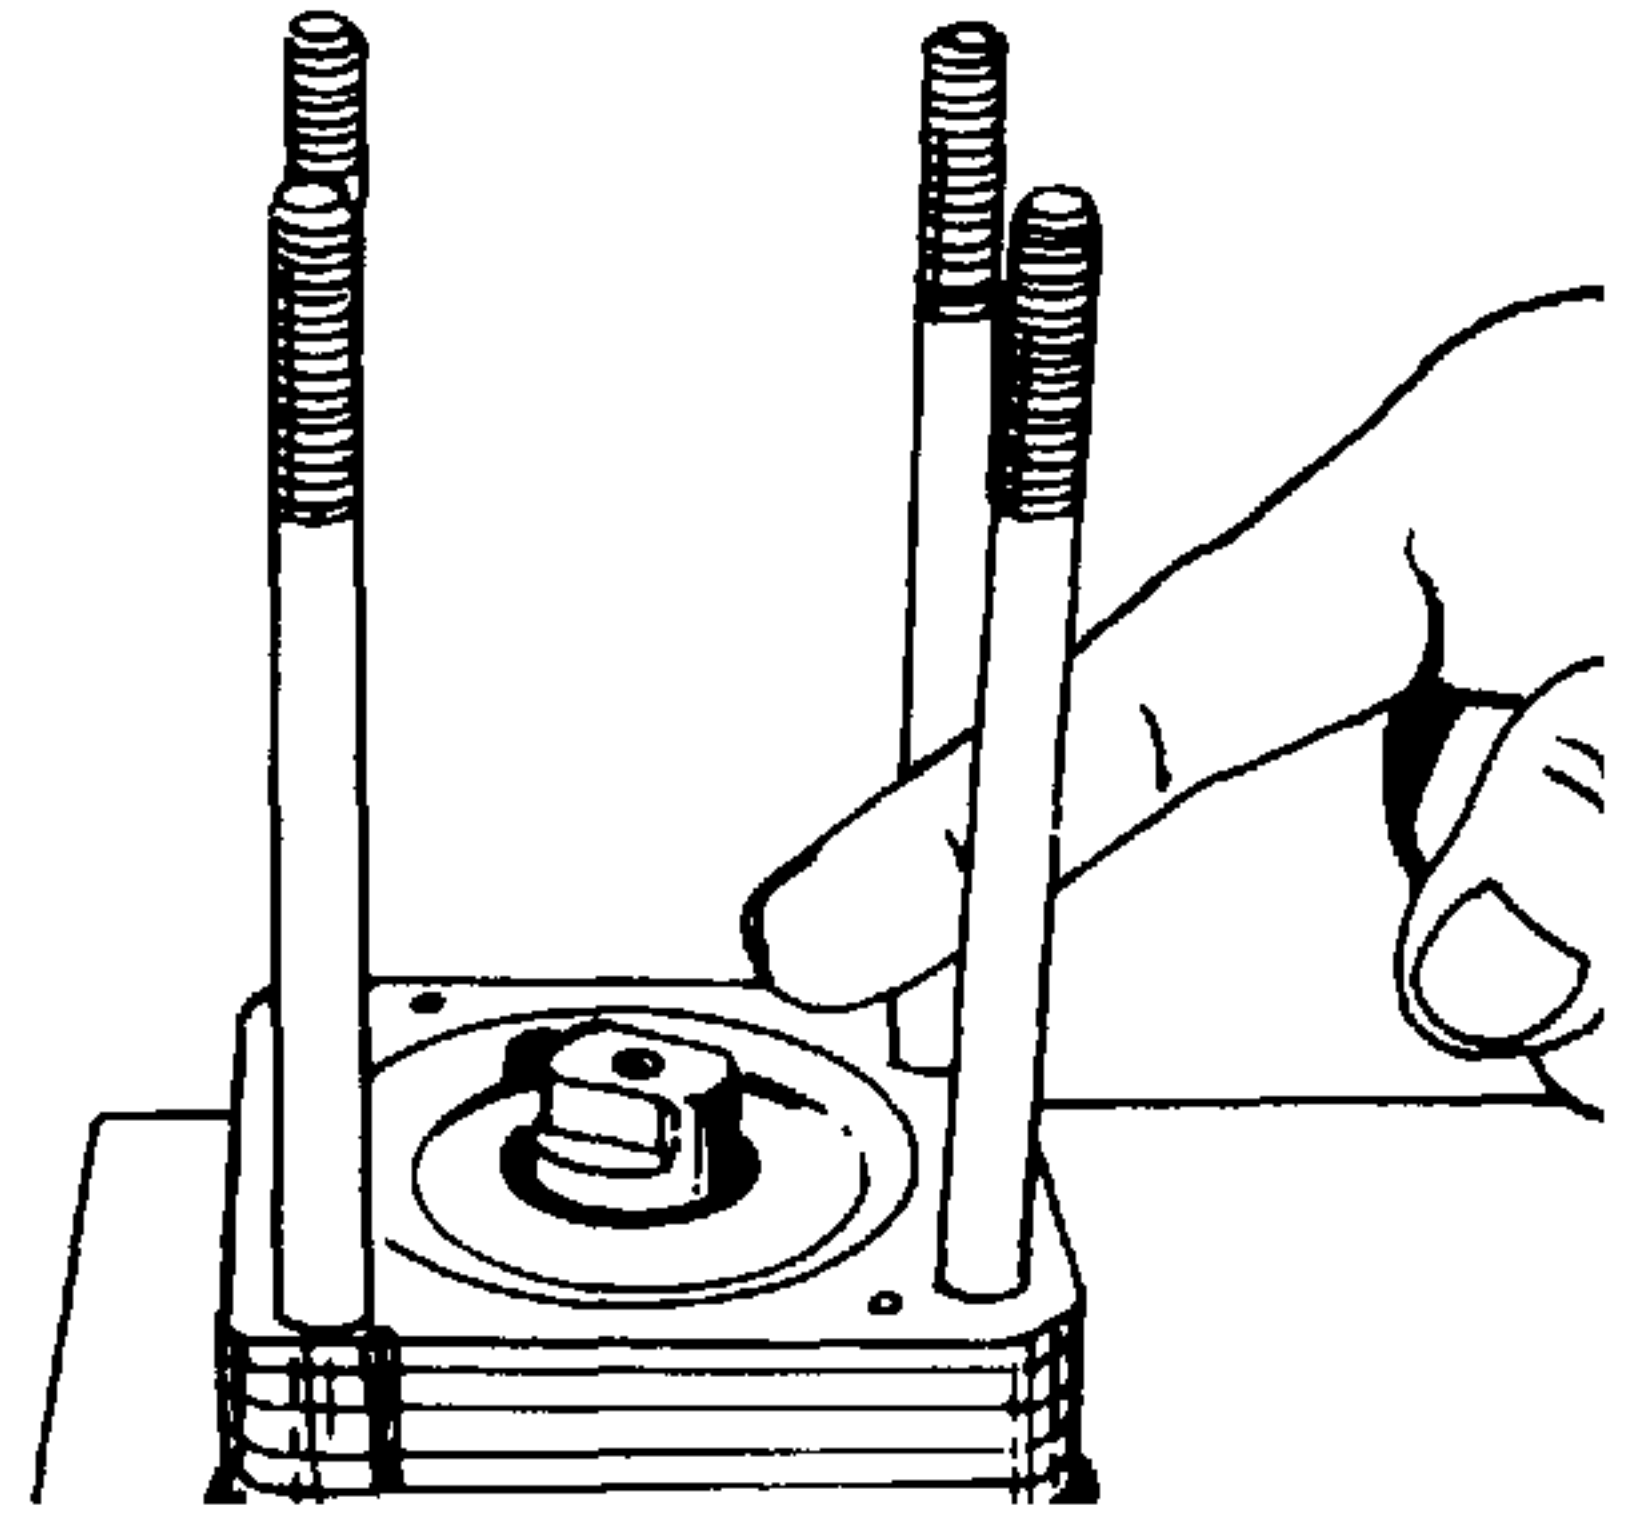

Figure 4-52. Applying Grease to Upper Cover Plate Face.
- Apply clean grease to the face of the upper cover plate (30, Figure 4-1), to the drive plate end of the input shaft assembly (31) and to the face seal (27). See Figure 4-52.